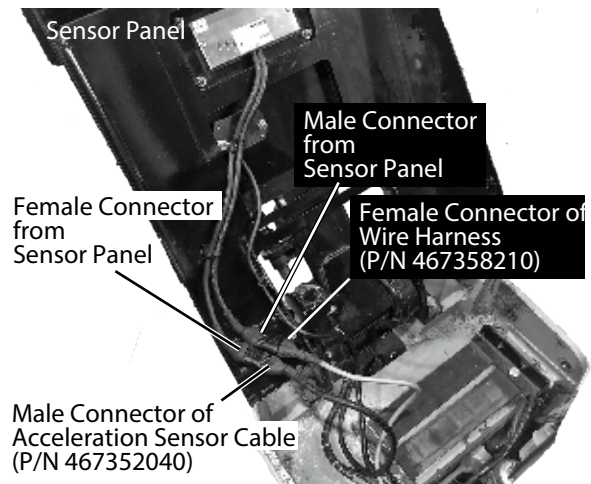

Figure 49. Secure Cable Connections
3. Route the acceleration sensor cable (P/N 467352040) through inside of the main body up toward the sensor panel. See Figure 49.
4. Connect the male connector of acceleration sensor cable (P/N 467352040) to the female connector extending from sensor panel. See Figure 49
5. Connect the female connector of wire harness (P/N 467358210) to the male connector extending from sensor panel. See Figure 49.